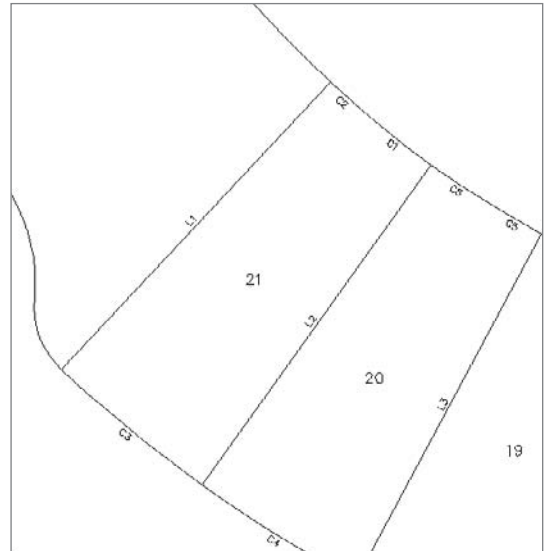

Figure A.35
- Zoom in on lot 21 and note that all of the segment labels have converted to tags, as shown in Figure A.35.